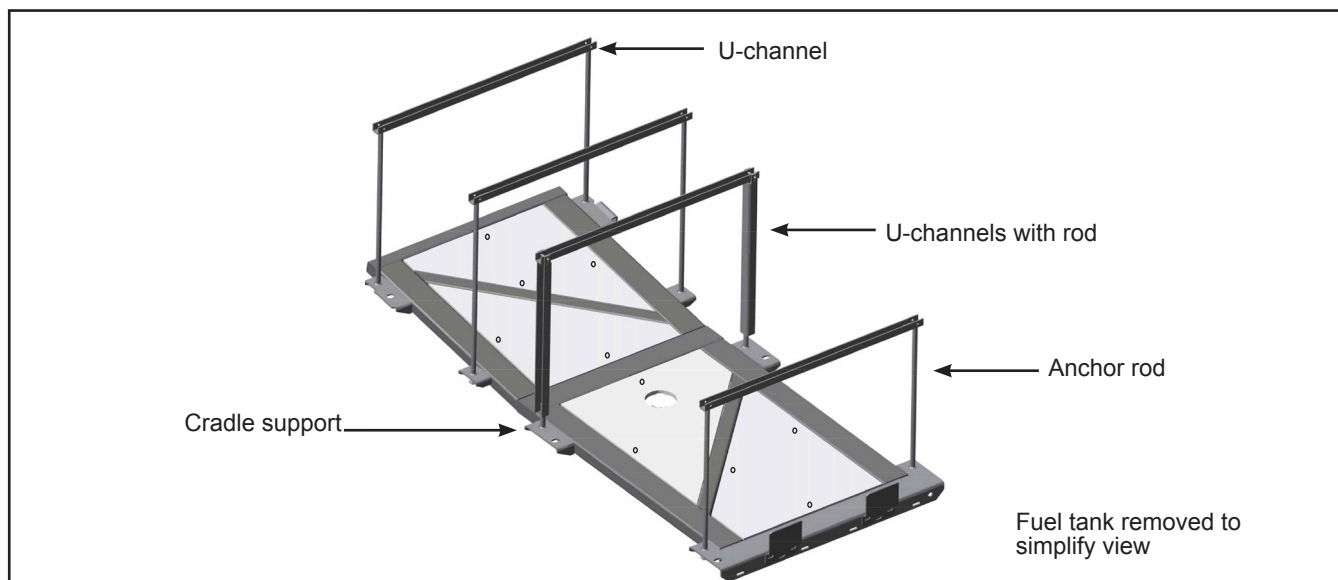

Figure 3 - Securing Fuel Tank to Cradle
- 1.5. Install the N68096 U-channels on top of the fuel tank. See Figure 3.
- 1.6. Insert the six anchor rods through the U-channels and the cradle supports. See Figure 3. Do not insert rods through the centre U-channel.